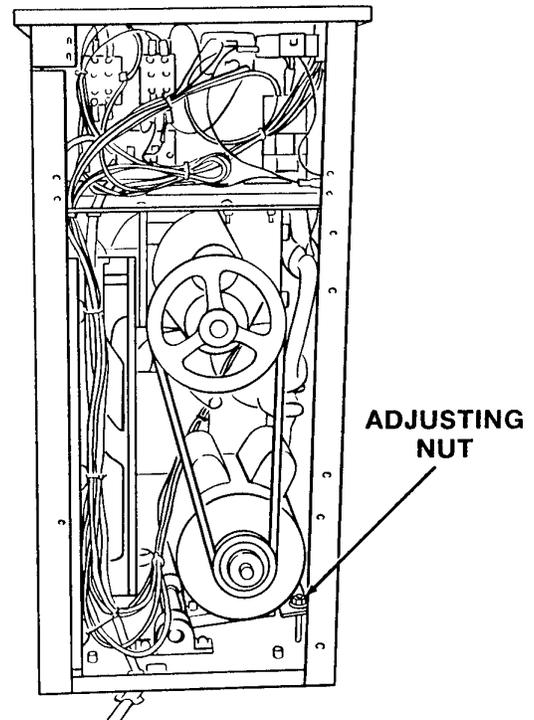

Figure 62. Drive Belt Removal
1. Loosen the belt tension adjusting nut and remove the drive belt (Figure 62).